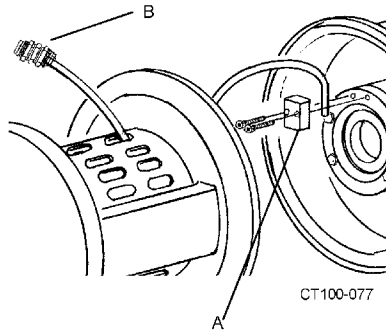

Figure 33 - Installing the Water Cascade System
- If your system has a water cascade, thread water cascade hose through the guard and install cascade block on backplate. (Figure 33, items A and B).